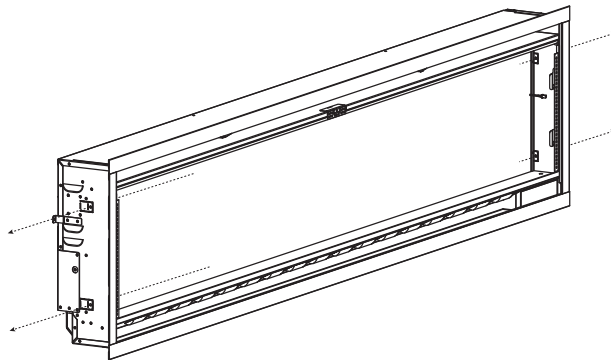

FIG. 5
8. Use 4 screws to secure the appliance into the wall (**FIG. 5**). Do not overtighten screws.